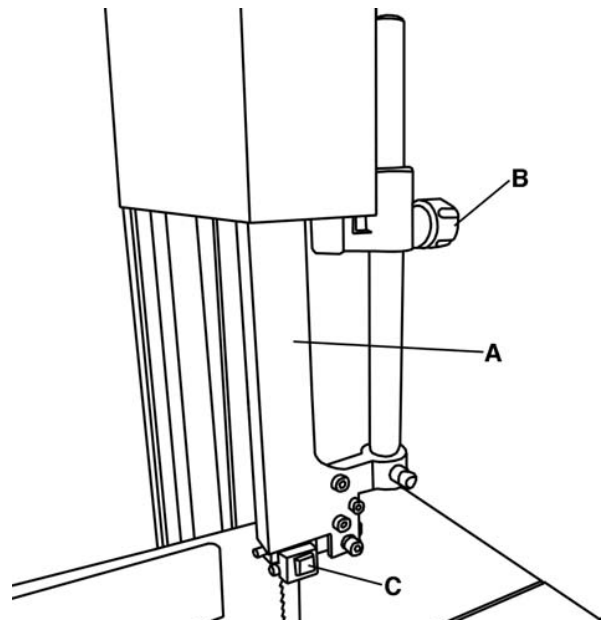

FIGURE 15
The blade guard (A) Fig.15 protects the operator from accidental contact with the blade. The blade guard lock knob (B) sets the height of the blade guard and blade guides (C). Always keep the blade guide assembly 1 inch away from the top of your piece of meat.